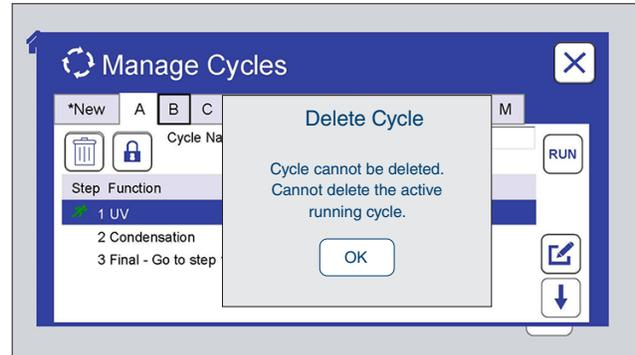

Figure 11.7.2b: The active running cycle cannot be deleted. Touch OK to clear message.
- An actively running cycle cannot be deleted (Figure 11.7.2b).